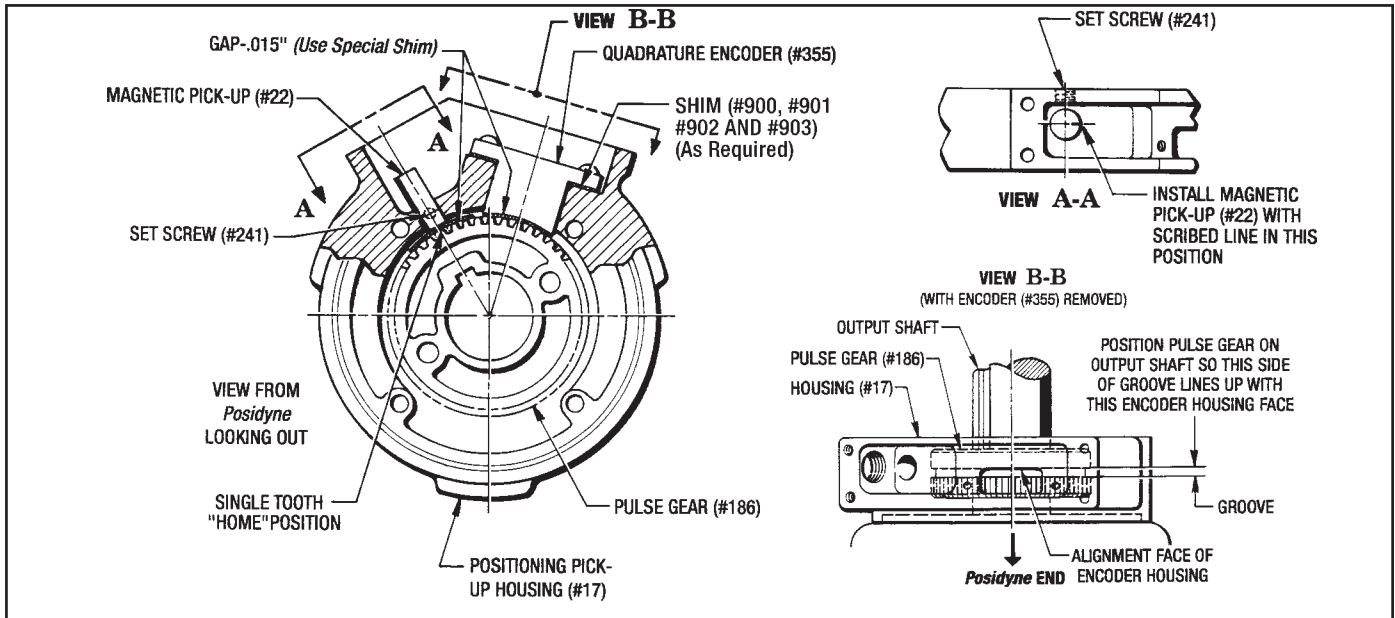

Figure 6.6 - Position Sensors Installation
2. Attach the Encoder Housing (#17) to the output housing with (4) Screws (#76) and (4) Washers (#257).
3. Slide the Pulse Gear (#186) on to the output shaft, aligning the groove in the pulse gear with the alignment face of the encoder housing, as shown in View B-B in Figure 6.6. Tighten Set Screw (#154).
3. Check the Gap between the Pulse Gear and the Encoder with the Special .015" Shim that you made. If necessary, remove the Encoder and place Shims (#214) under the Encoder. (Usually .015" is sufficient.) Re-attach the Encoder and re-check the Gap. (See Figure 6.6)
(See Figure 6.6)
2. Insert the Magnetic Pick-Up Sensor (#22) into the hole with the **Scribed Line** in position as shown in Figure 6.6, View A-A.